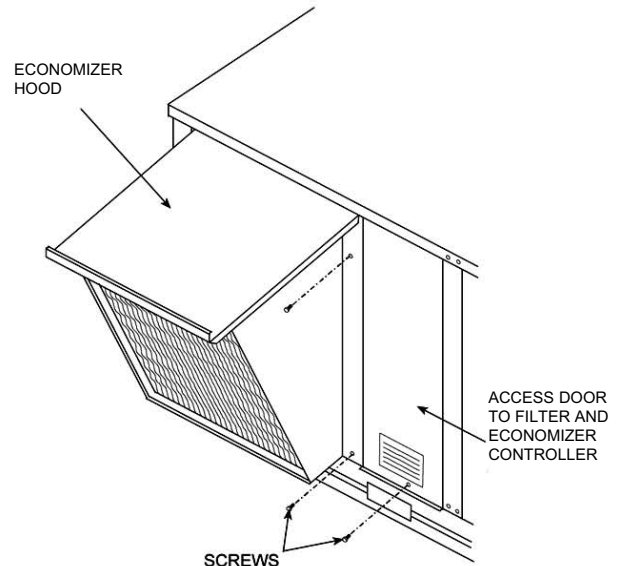

Fig. 11- Economizer Hood Installation (5 Ton Unit Shown)
17. Install the Economizer hood over the Economizer. Use screws provided. See Fig. 11 and 12. Insert screw through right side flange of hood into Economizer flange.
18. Install access door next to hood. Screw bottom of door to HVAC unit. See Fig. 11 and 12.